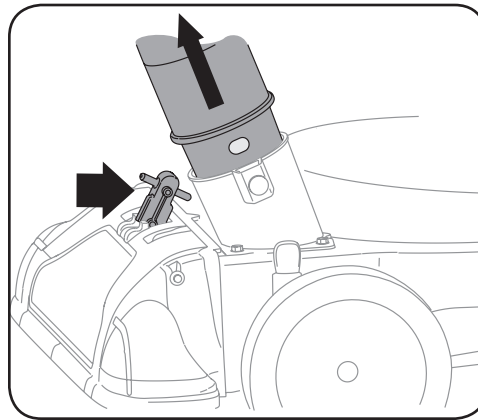

Figure 4-4
- Place nozzle/hose vac lever in the top position on the nozzle to vacuum through nozzle. See Figure 4-4.
- The spring loaded pin must be in the first hole (closest to the end of the tube) of the hose adapter to operate the nozzle vac. See Figure 4-4.